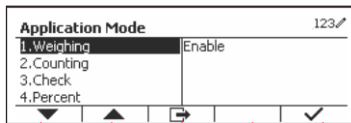

Figure 38
3. In the Application Mode menu, enter the Weighing submenu. (See Figure 38)